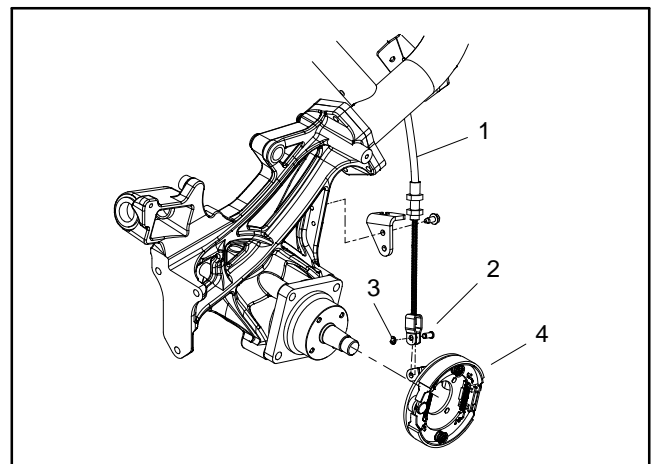
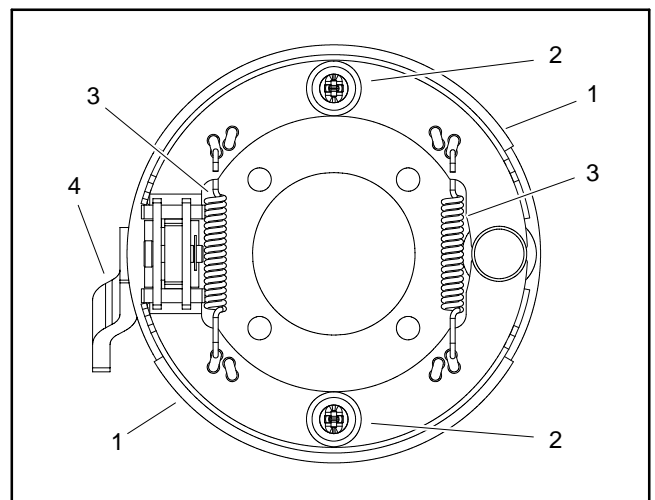

Figure 7
Figure 8
3. Loosen, but do not remove, lock nut (item 7) from wheel motor shaft.
6. Remove e-ring and clevis pin that secure brake cable to brake actuator lever. Position brake cable end away from lever (Fig. 7).
7. Make sure that lock nut on wheel motor shaft is loosened at least two (2) turns. Use wheel hub puller (see Special Tools in this chapter) to loosen brake drum assembly from motor.
9. Remove shoe springs from brake shoes (Fig. 8).
10. Remove shoe hold down cups and springs. Remove brake shoes and hold down pins from backing plate (Fig. 8).
11. If necessary, remove backing plate from machine by removing four (4) cap screws (item 6).
2. If backing plate was removed from machine, position backing plate to wheel motor with brake lever inserted into slot of brake lever tab. Secure backing plate to wheel motor with four (4) cap screws (item 6).
4. Position one brake shoe to the backing plate. Install brake hold down pin and secure with hold down spring and cup (Fig. 8). Repeat for second brake shoe.
5. Install shoe springs to brake shoes (Fig. 8). Make sure that brake shoes are properly positioned to pivot and actuator points.
8. Install new lock nut (item 7) onto the wheel motor shaft to secure brake drum assembly.
9. Position brake cable end to brake actuator lever. Secure cable to actuator lever with clevis pin and e-ring (Fig. 7).
12. Torque lug nuts evenly in a crossing pattern from **65 to 85 ft-lb (98 to 115 N-m)**. Torque lock nut (item 17) that secures wheel hub from **250 to 400 ft-lb (339 to 542 N-m)**.